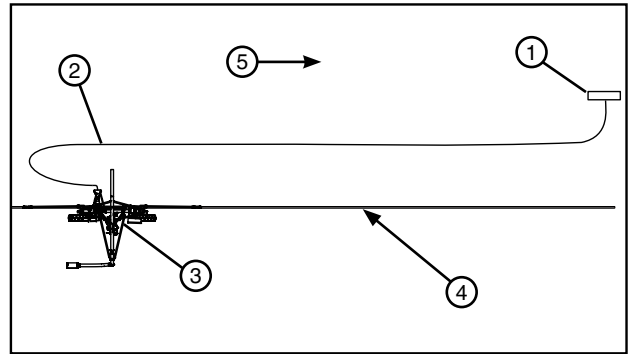

Figure 71-2 1. Power Pedestal
- (c) Position the electric cord between the cart and power pedestal so that it does not interfere with the furrow guidance arms if applicable. See figure 71-2.